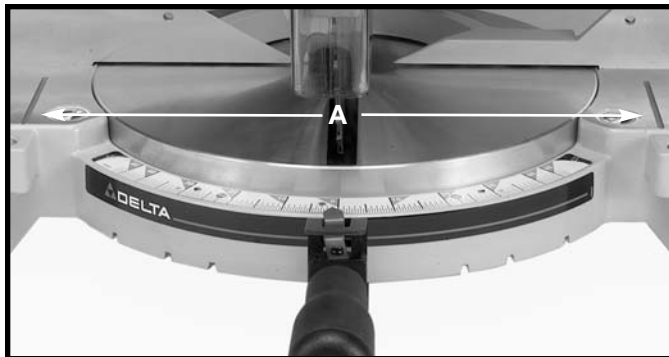

Fig. 15
WARNING: THE AREA INSIDE THE TWO RED LINES (A) FIG. 15 ON THE TABLE IS DESIGNATED AS A HAZARD ZONE. NEVER PLACE YOUR HANDS INSIDE THIS AREA WHILE OPERATING THE TOOL.